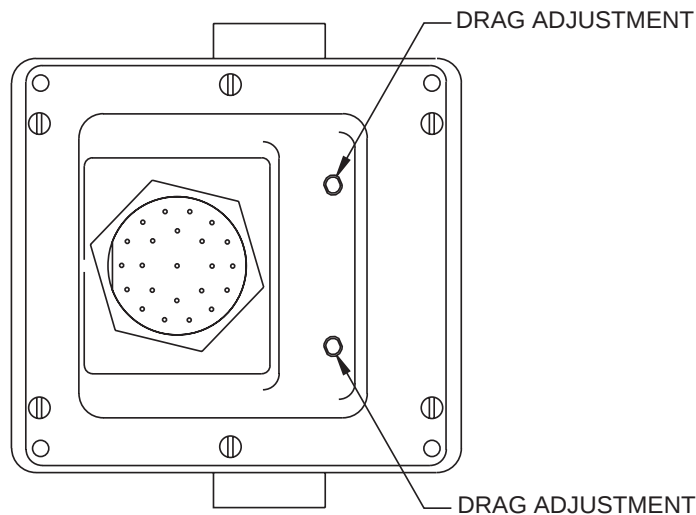
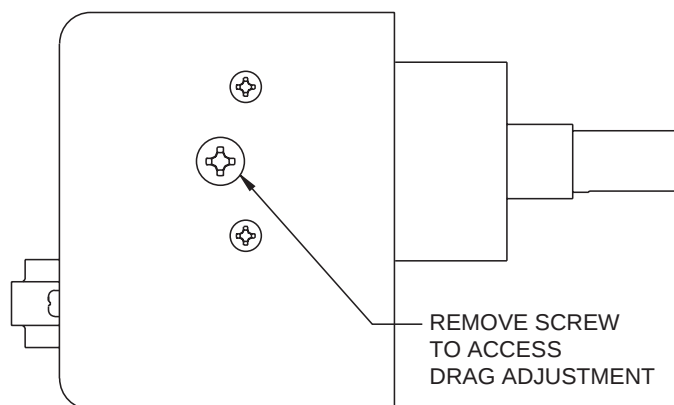

Figure 7. Drag Adjustment Screws for Single/Dual Lever Control Head
Figure 8. Drag Adjustment Screws for Side Mount Control Head Assembly
1. Adjust drag as needed. Refer to Figure 7 and 8 for drag adjustment screw locations.
2. Access the drag adjustment screw and insert an 1/8 in. hex key wrench into the opening for each lever. Remove the access screw on side mount control heads. See Figure 7 and Figure 8.